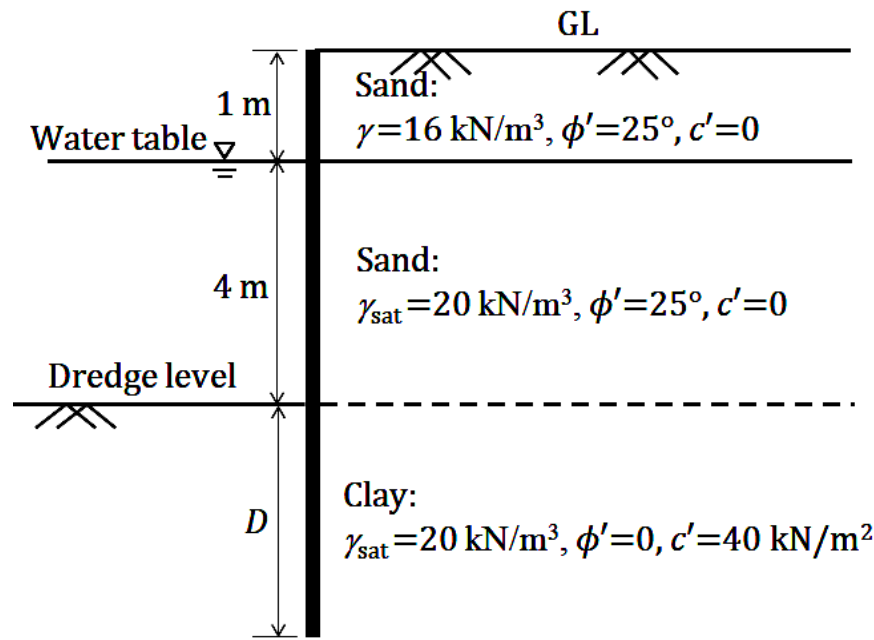

Fig.: 1
8. Fig. 1 shows a cantilever sheet pile wall penetrating a clayey soil. Determine the theoretical depth of embedment ($D_{\text{theoretical}}$) and (ii) The actual depth of embedment [$D_{\text{actual}} = 1.5D_{\text{theoretical}}$]. [[CO6](Evaluate/HOCQ)]